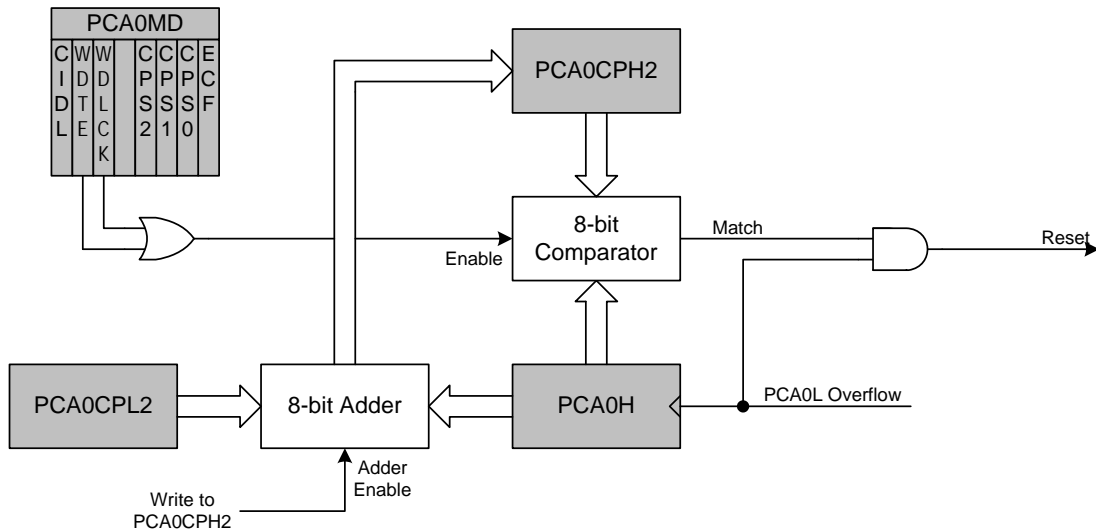

Figure 24.11. PCA Module 2 with Watchdog Timer Enabled
While the WDT is enabled, writes to the CR bit will not change the PCA counter state; the counter will run until the WDT is disabled. The PCA counter run control bit (CR) will read zero if the WDT is enabled but user software has not enabled the PCA counter. If a match occurs between PCA0CPH2 and PCA0H while the WDT is enabled, a reset will be generated. To prevent a WDT reset, the WDT may be updated with a write of any value to PCA0CPH2. Upon a PCA0CPH2 write, PCA0H plus the offset held in PCA0CPL2 is loaded into PCA0CPH2 (See Figure 24.11).